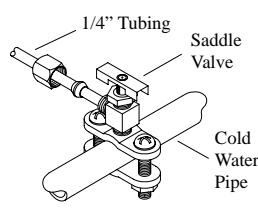
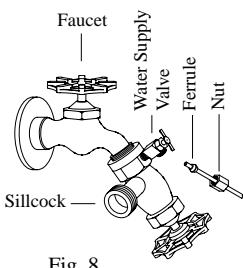

Fig. 7
Fig. 8
- Connect water supply line.** Find the closest supply of water. Use a saddle valve (Fig. 7) to connect 1/4" tubing to the cold water supply or use a Sillcock and water valve connected to an outside faucet (Fig. 8). Place the nut and ferrule on the tubing and tighten the nut until water tight. **IMPORTANT:** Do not connect the water supply to any soft water applications. Soft water will cause corrosion and decrease the life of the cooler.